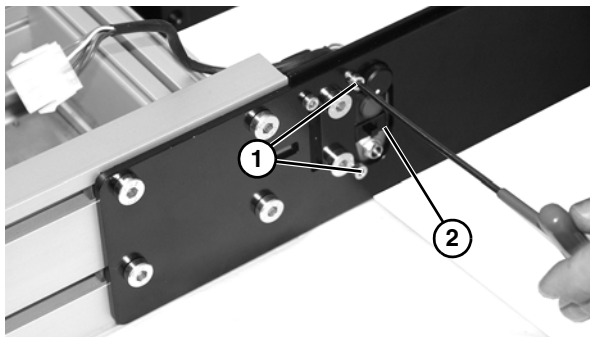

Figure 74
5. Remove two hex head screws (**Figure 74, item 1**) and switch assembly (**Figure 74, item 2**) from conveyor frame.